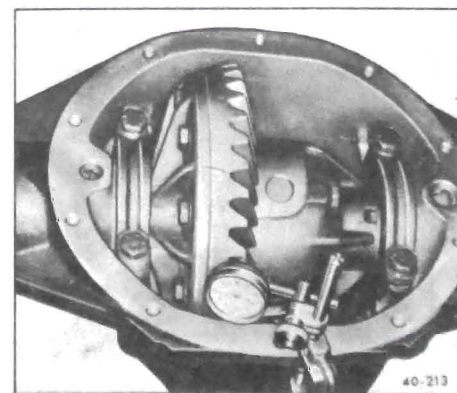

Figure 40-200 - Checking Ring Gear to Pinion Backlash
4. Rotate differential case several times to seat bearings, then mount dial indicator as shown in Figure 40-200. Use a small button on indicator stem so that contact can be made near heel end of tooth. Set dial indicator so that stem is as